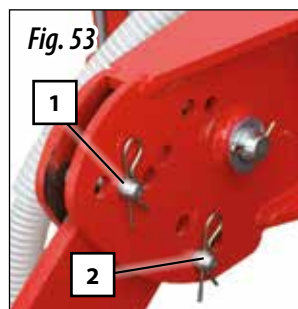

Fig. 53
- a. By using the upper bolt (1, fig. 53), the depth of the last row of tine coulters can be adjusted. In this way the pressure performed by the roller onto the ground can be controlled.
- b. By using the lower bolt (2, fig. 53), the roller's penetration into the ground can be controlled and the roller can also be secured ready for transit.
IN NO-TILL SOWING IT IS RECOMMENDED TO FIX THE ROLLER USING THE BOLT (1, FIG. 53), SINCE IT ALLOWS TO ADJUST THE PLANTING DEPTH OF THE LAST ROW OF TINE COULTERS OF THE SOWING EQUIPMENT AND, THEREFORE, MAKE ALL THE ROWS EVEN. BEFORE STARTING TO SOW IT IS RECOMMENDED TO PERFORM A TEST TO CHECK THAT THEY ARE EVEN.